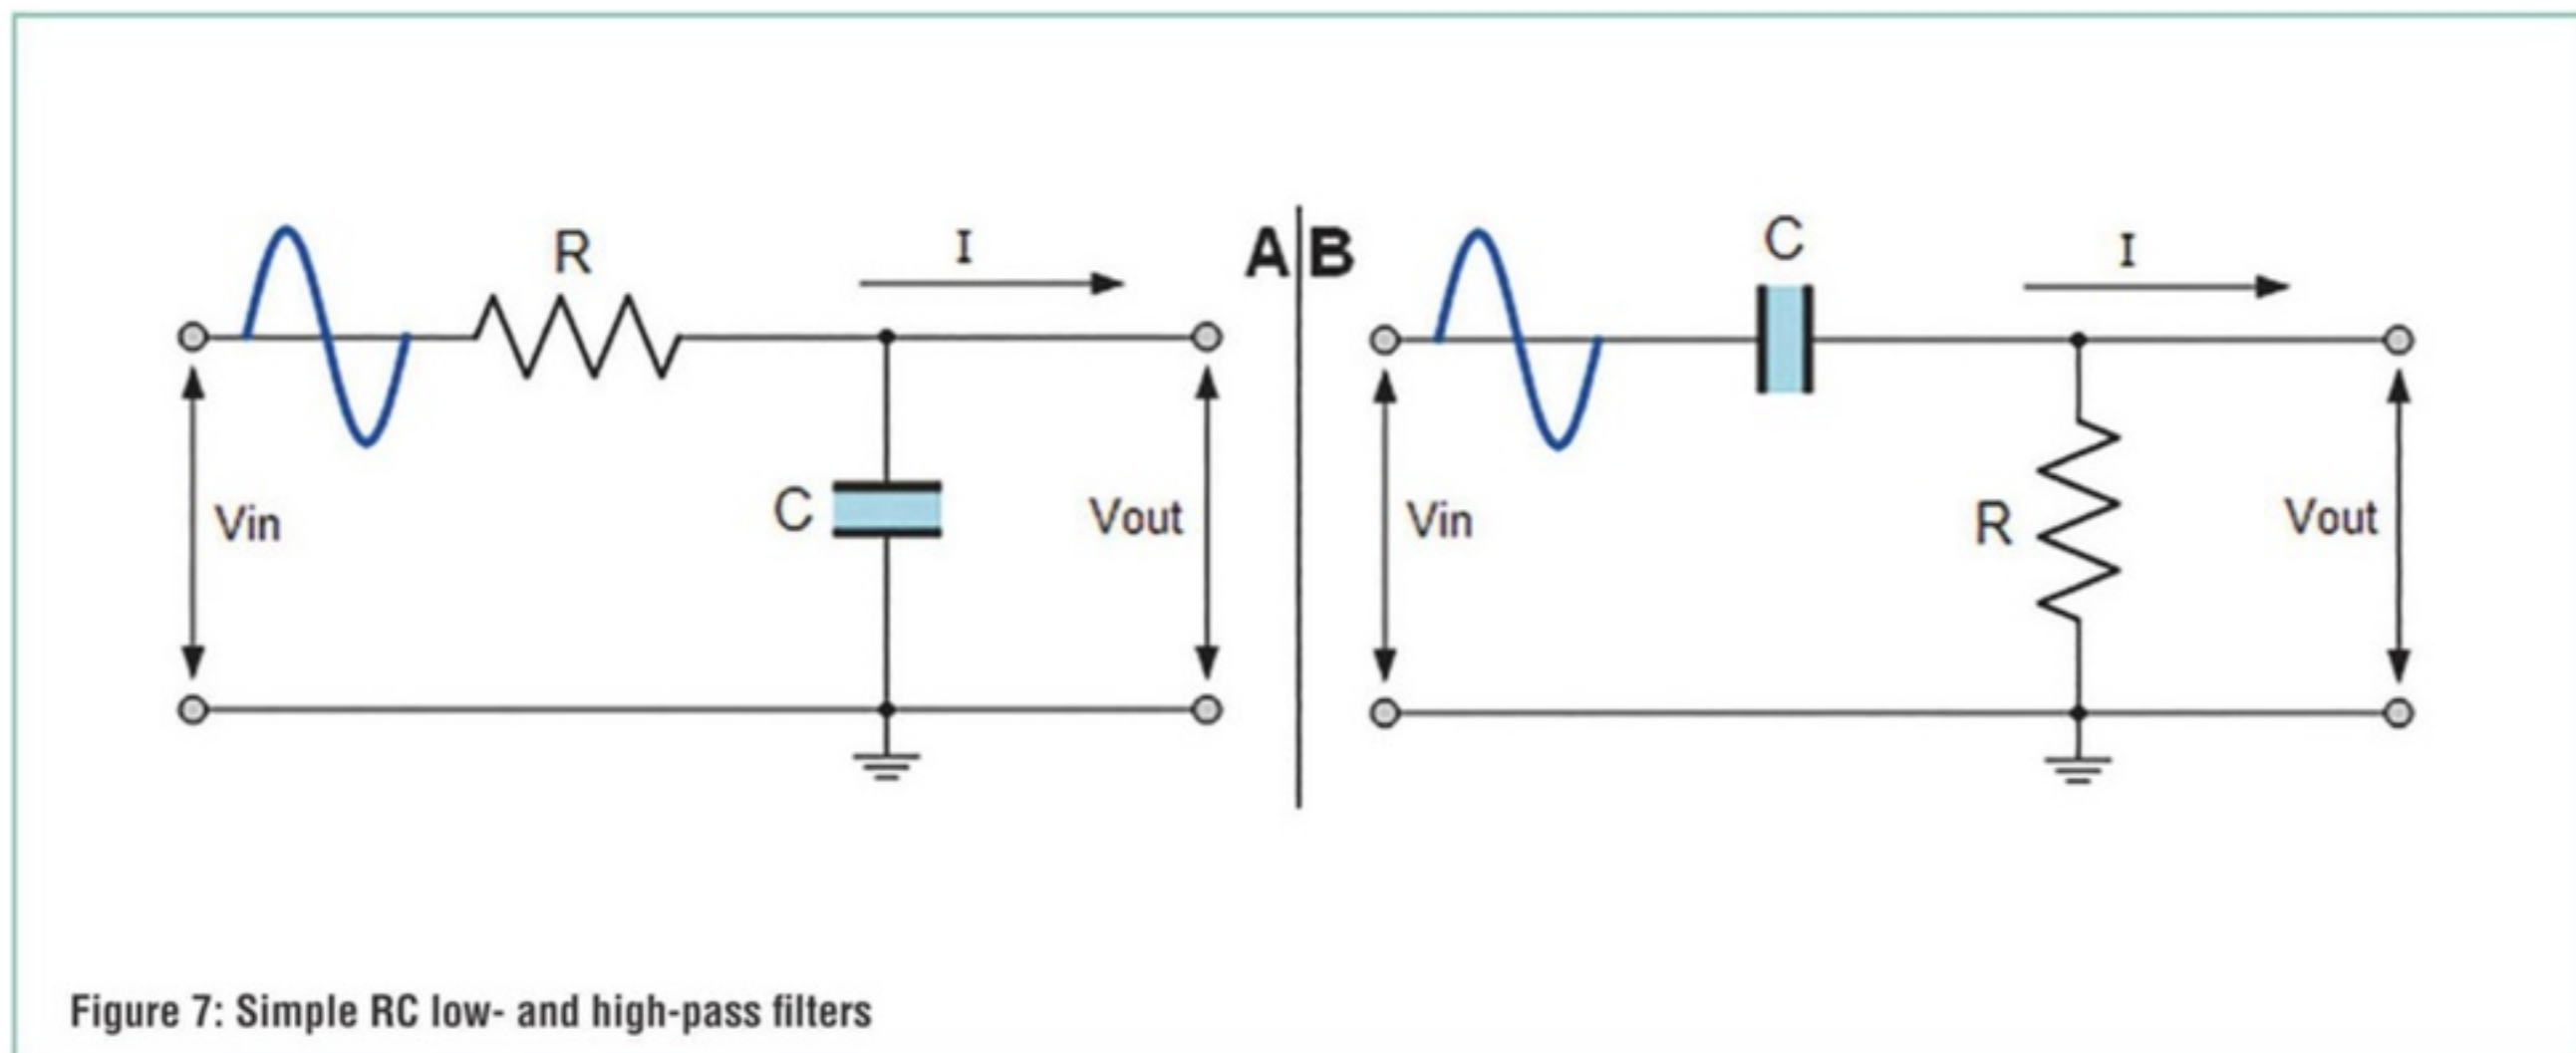

Figure 7: Simple RC low- and high-pass filters
1. RC low-pass filter: A common circuit to attenuate high-frequency components in an analog signal is the RC low-pass filter. Figure 7 (A) shows that V_{in} is the applied voltage and the voltage V_{out} across C is the output:
2. RC high-pass filter: A circuit that attenuates low-frequency components in an analog signal is called an RC high-pass filter, shown in Figure 7 (B). Notice that the circuit is similar to the one above, but V_{out} is now measured across R. The cut-off frequency point (f_c) for a first-order high-pass filter can be found using the same equation as that of the low-pass filter, while the equation for the gain (A_v) and phase shift (ϕ) is modified slightly to account for the positive phase angle as shown below: